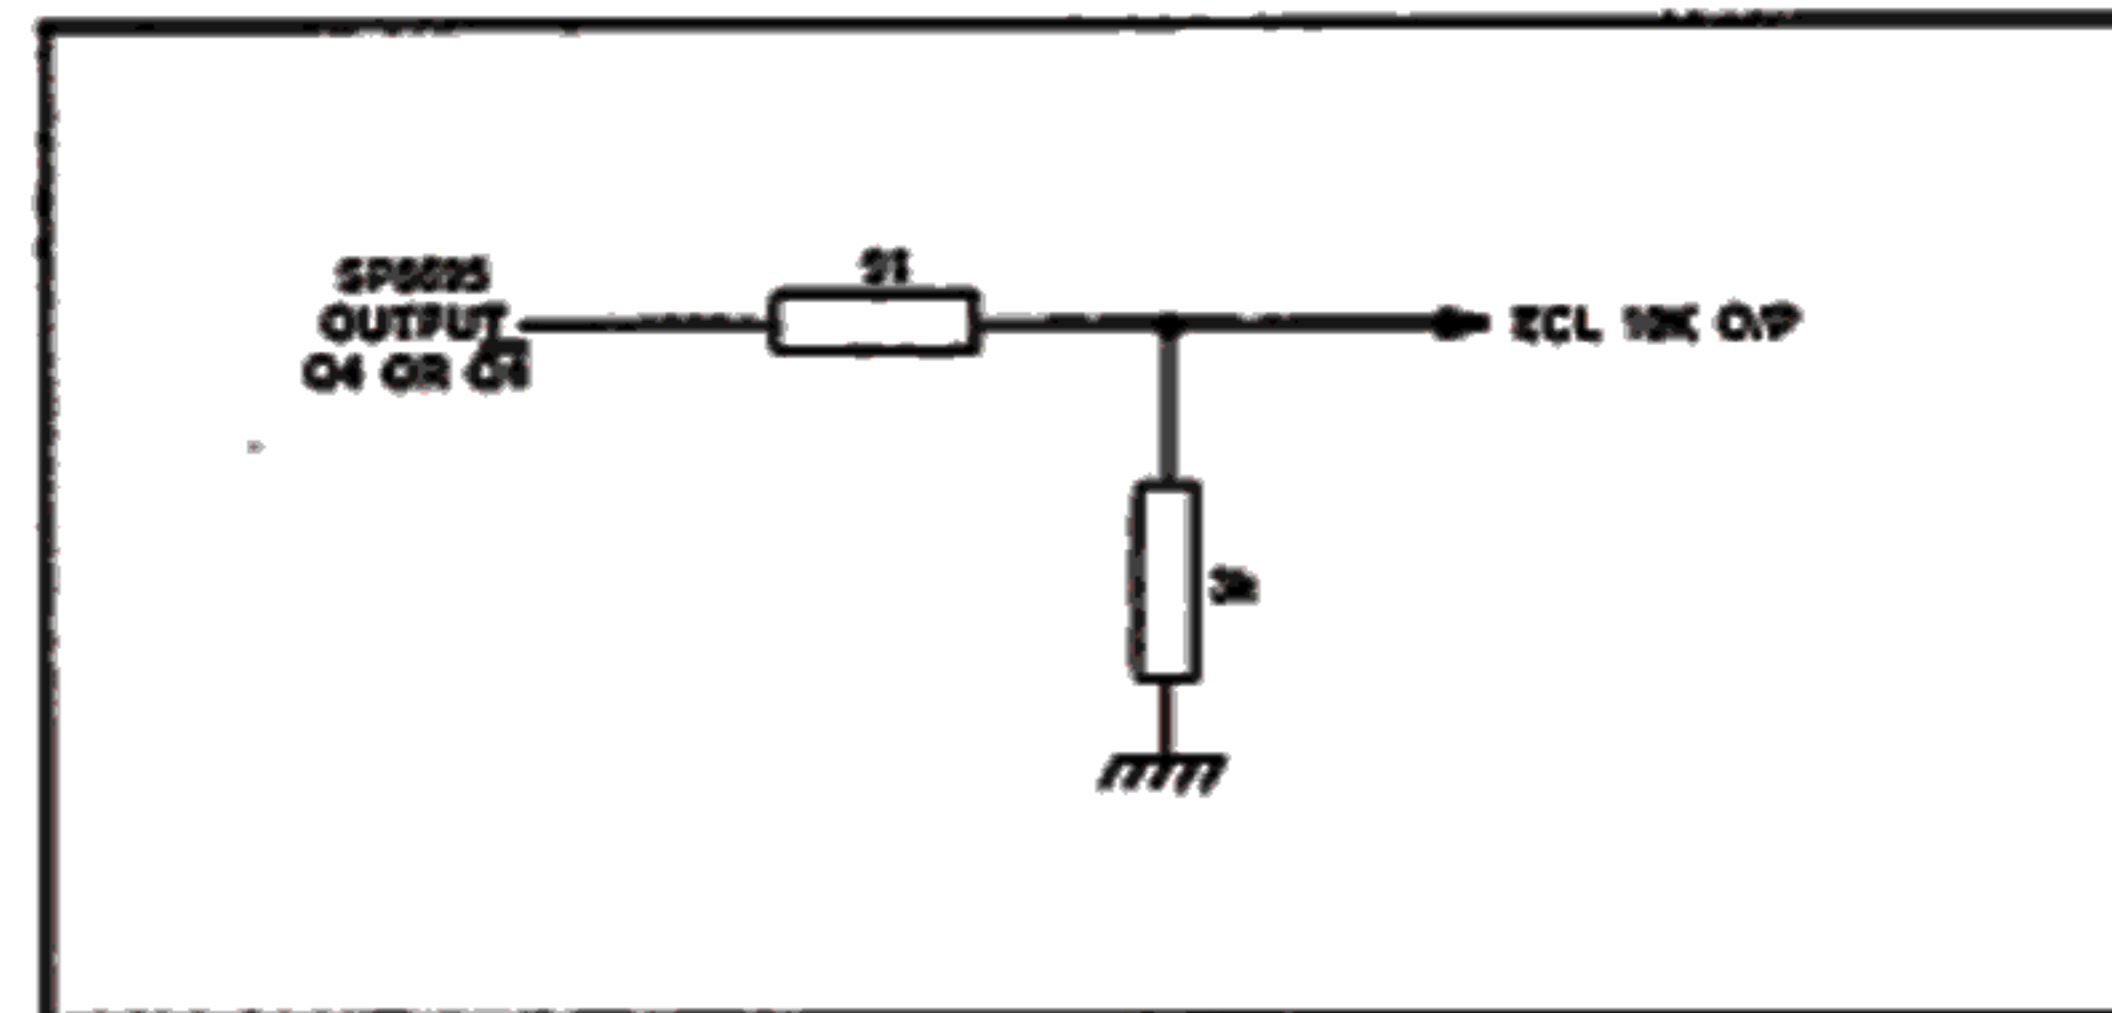

Fig.8 Interfacing to SP8695 output to ECL 10K
3. The Q₄ and Q₅ ECL outputs have internal circuitry equivalent to a 14k pull-down resistor on each output and are ECL II compatible: they can however be interfaced to ECL III/10K as shown in Fig. 8.